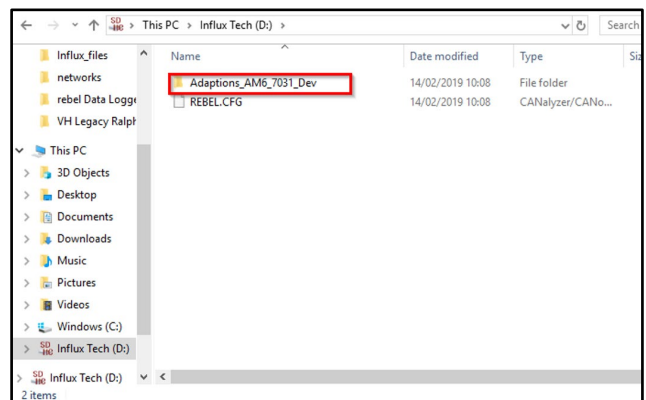

Figure 5
4. Open the configuration folder (refer to Figure 5).